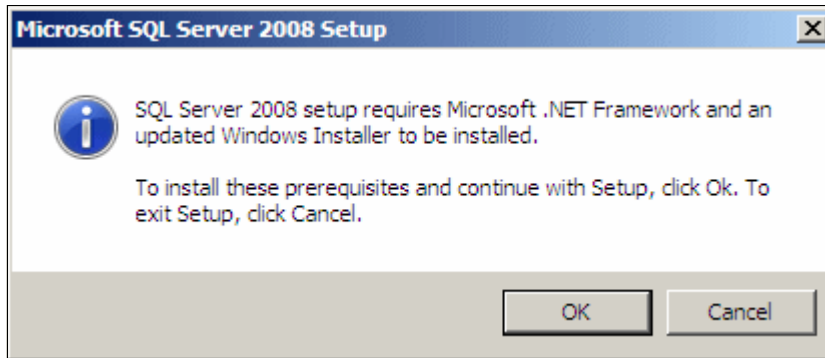

Figure 6-14 SQL Server requirements
- The "Microsoft SQL Server Setup" panel (Figure 6-14) alerts you to any missing prerequisites. In our case, both .NET and the updated windows installer are required. Click **OK** to install these prerequisites.